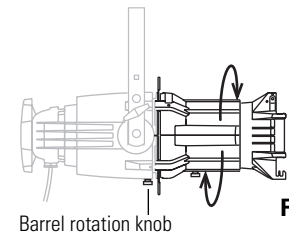

Figure 8
1. Loosen the barrel rotation knob directly behind the shutters on the underside of the reflector housing (**Figure 8**). **Do not** remove the barrel rotation knob.